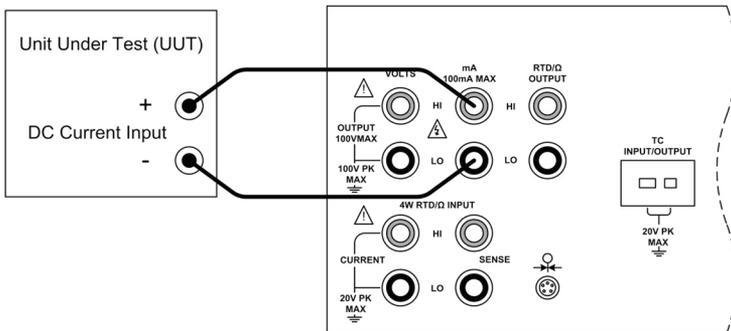

Figure 11 - DC Current Output Connection
- c) Connect the unit under test to the current output terminals of the PD9500 as shown in figure 11.